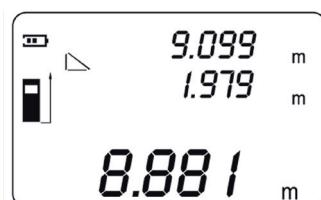

Fig. 18
8. Press the Read button again to display the calculated length of BC on the bottom line of the screen; the distance AC is simultaneously displayed on the second line (fig. 18).